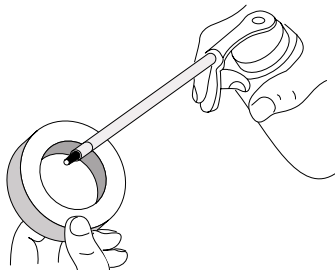

Fig. 23
4. Apply enough clean SAE 30 oil to lightly coat the filter (Fig. 23).